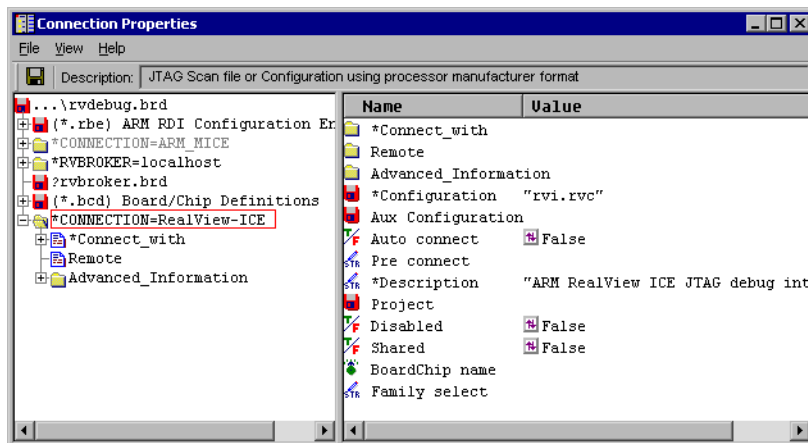

Figure 3-4 RealView-ICE connection properties
1. In the Connection Properties window, click the connection that you are using, for example CONNECTION=RealView-ICE shown in Figure 3-4.
1. In the Connection Properties window, expand the connection that you are using, for example `CONNECTION=RealView-ICE` shown in Figure 3-4 on page 3-12.